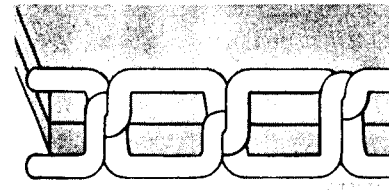

Fig. 16. Cross Section View of Irregular Lock Stitch
**Irregular stitching**, such as is shown in Figs. 16 and 17, is usually caused by a **combination of two or more of the following conditions**: